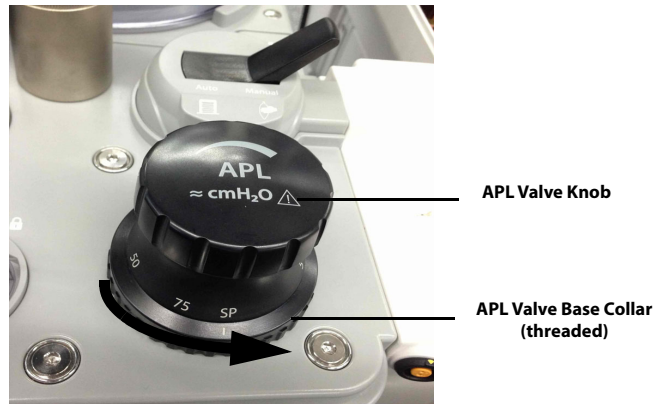

FIGURE 7-14 APL Valve Removal
1. The APL valve is a component that is plugged into position and secured by a threaded base collar. Loosen the base collar of the APL valve by turning the collar (not the valve knob) counterclockwise until it is no longer threaded (see FIGURE 7-14). Then, firmly pull the APL valve upward to remove.